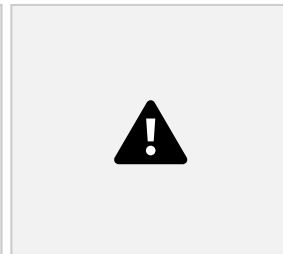

Fig. 7
1. Activate both vacuums (Figure 7).